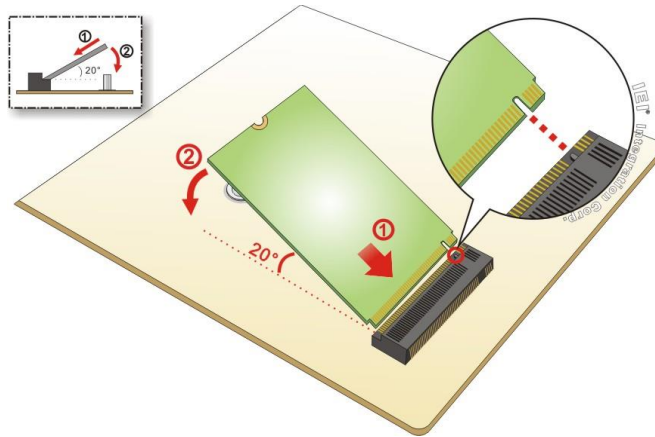

Figure 4-9: Inserting the M.2 Module into the Slot at an Angle
- Step 3:** Line up the notch on the module with the notch on the slot. Slide the M.2 module into the socket at an angle of about 20° (**Figure 4-9**).
Step 2: Line up the notch on the M.2 module with the notch on the slot. Slide the M.2 module into the socket at an angle of about 20°. (See **Figure 4-9**)